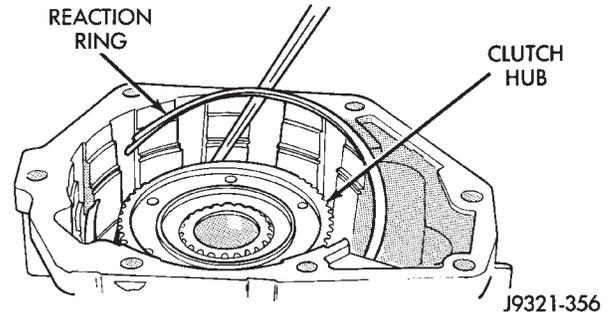

Fig. 216 Overdrive Clutch Reaction Snap Ring Removal/Installation
(2) Remove overdrive clutch reaction snap ring (Fig. 216). Note that snap ring is located in same groove as wave spring.